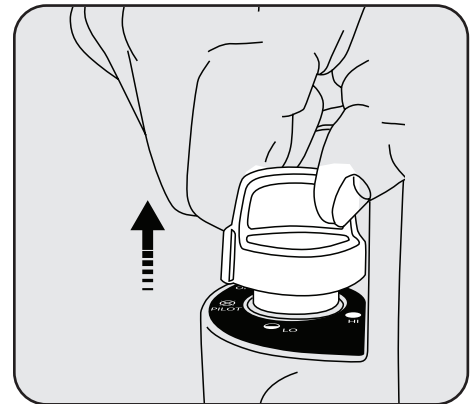

Figure 4
5. After pilot lights, hold down for 30-60 seconds and then release knob. Knob should return to fully extended position. See Figure 4.
8. After pilot lights, hold down for 30 -60 seconds and then release knob. Knob should return to fully extended position. See Figure 4. The pilot should remain lit.